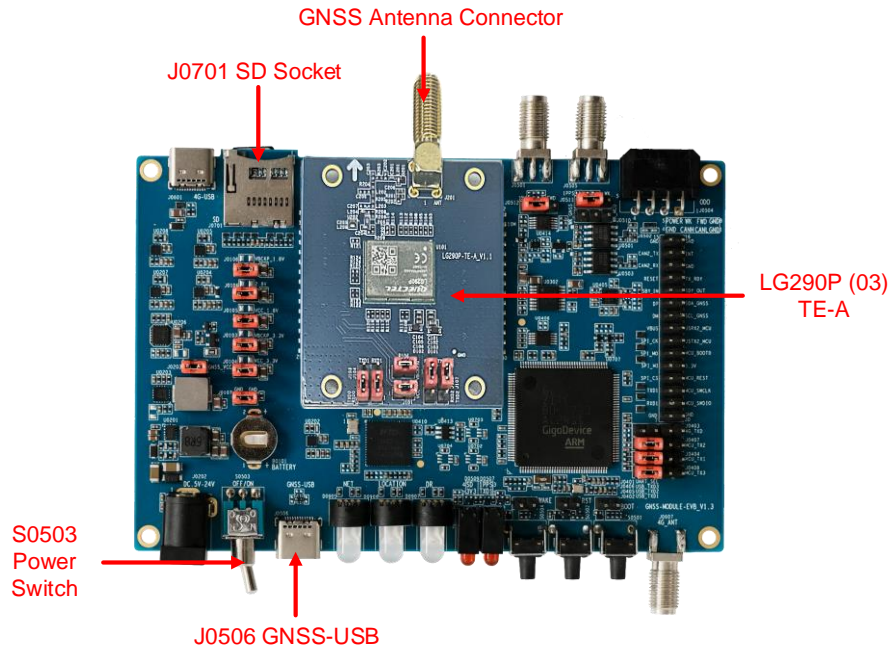

Figure 5: EVB Interfaces
Step 2: Set up the GNSS-MODULE EVB connections. Make sure that connections to related interfaces (as shown in Figure 5: EVB Interfaces) are properly configured.
1. Make sure that the jumper caps are positioned as in Figure 5: EVB Interfaces. If you use a 4G module for RTK functionality testing and verification, to ensure stable and effective communication, you must short J0404 (MCU_TX1) and J0402 (USB_TXD1) with jumper caps on the GNSS-MODULE EVB.